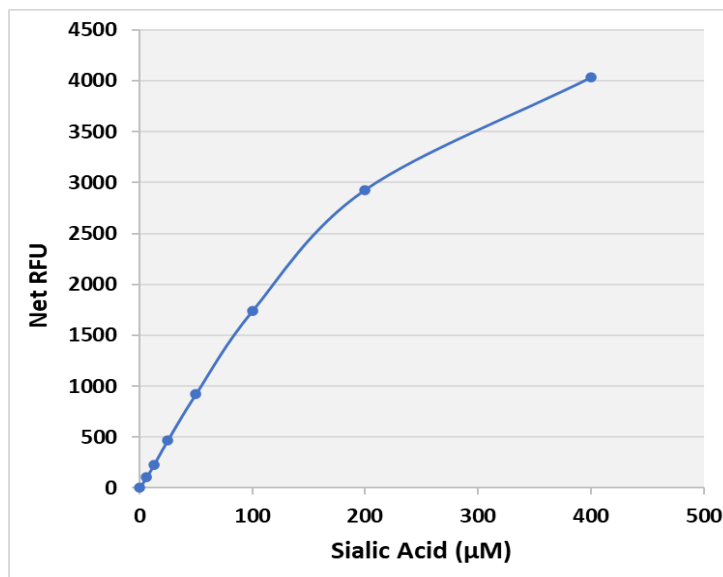

Figure 2: Sialic Acid Standard Curve.
3. Graph the standard curve (see Figure 2).